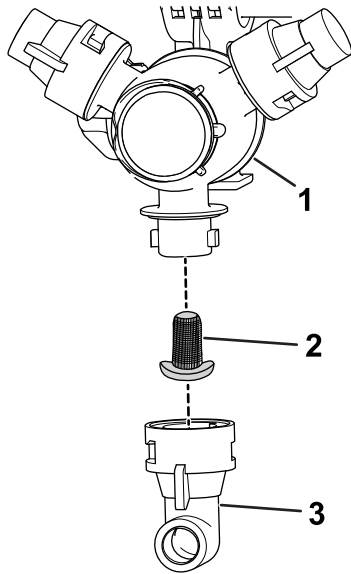

Figure 97
2. Remove the nozzle from the spray turret (Figure 97).
3. Remove the nozzle filter (Figure 97).
5. Install the nozzle filter (Figure 97).
6. Install the nozzle onto the spray turret (Figure 97).